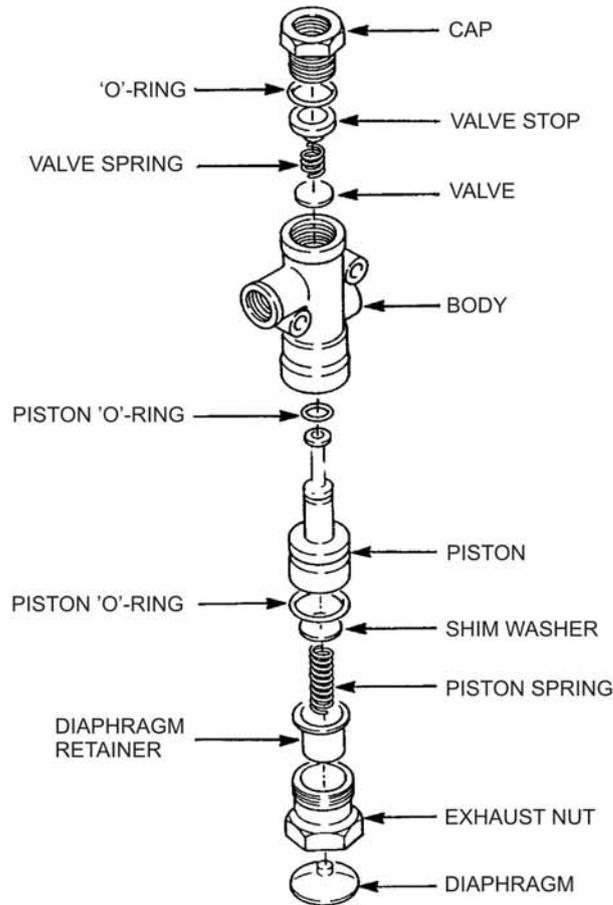

**Figure 172 Levelling Valve – Exploded View**
**274.** The levelling valve (Figure 172) maintains the desired ride height by automatically adding air to or exhausting air from the system, via the action of the levelling valve linkage attached to the rear axle assembly and the levelling valve eccentric shaft. As load is applied, the levelling arm moves from its neutral position to the UP (intake) position. The levelling valve is then open allowing air to pass to the air springs, which raises the vehicle body and brings the levelling arm back to a neutral position closing OFF the air supply. As load is removed, the levelling arm moves from its neutral position to the DOWN (exhaust) position. This opens a port in the levelling valve and allows air to pass from the air springs via the inversion valve to exhaust. When the set ride height is obtained, the flexible link moves the inversion valve and allows the air in the air springs to exhaust.